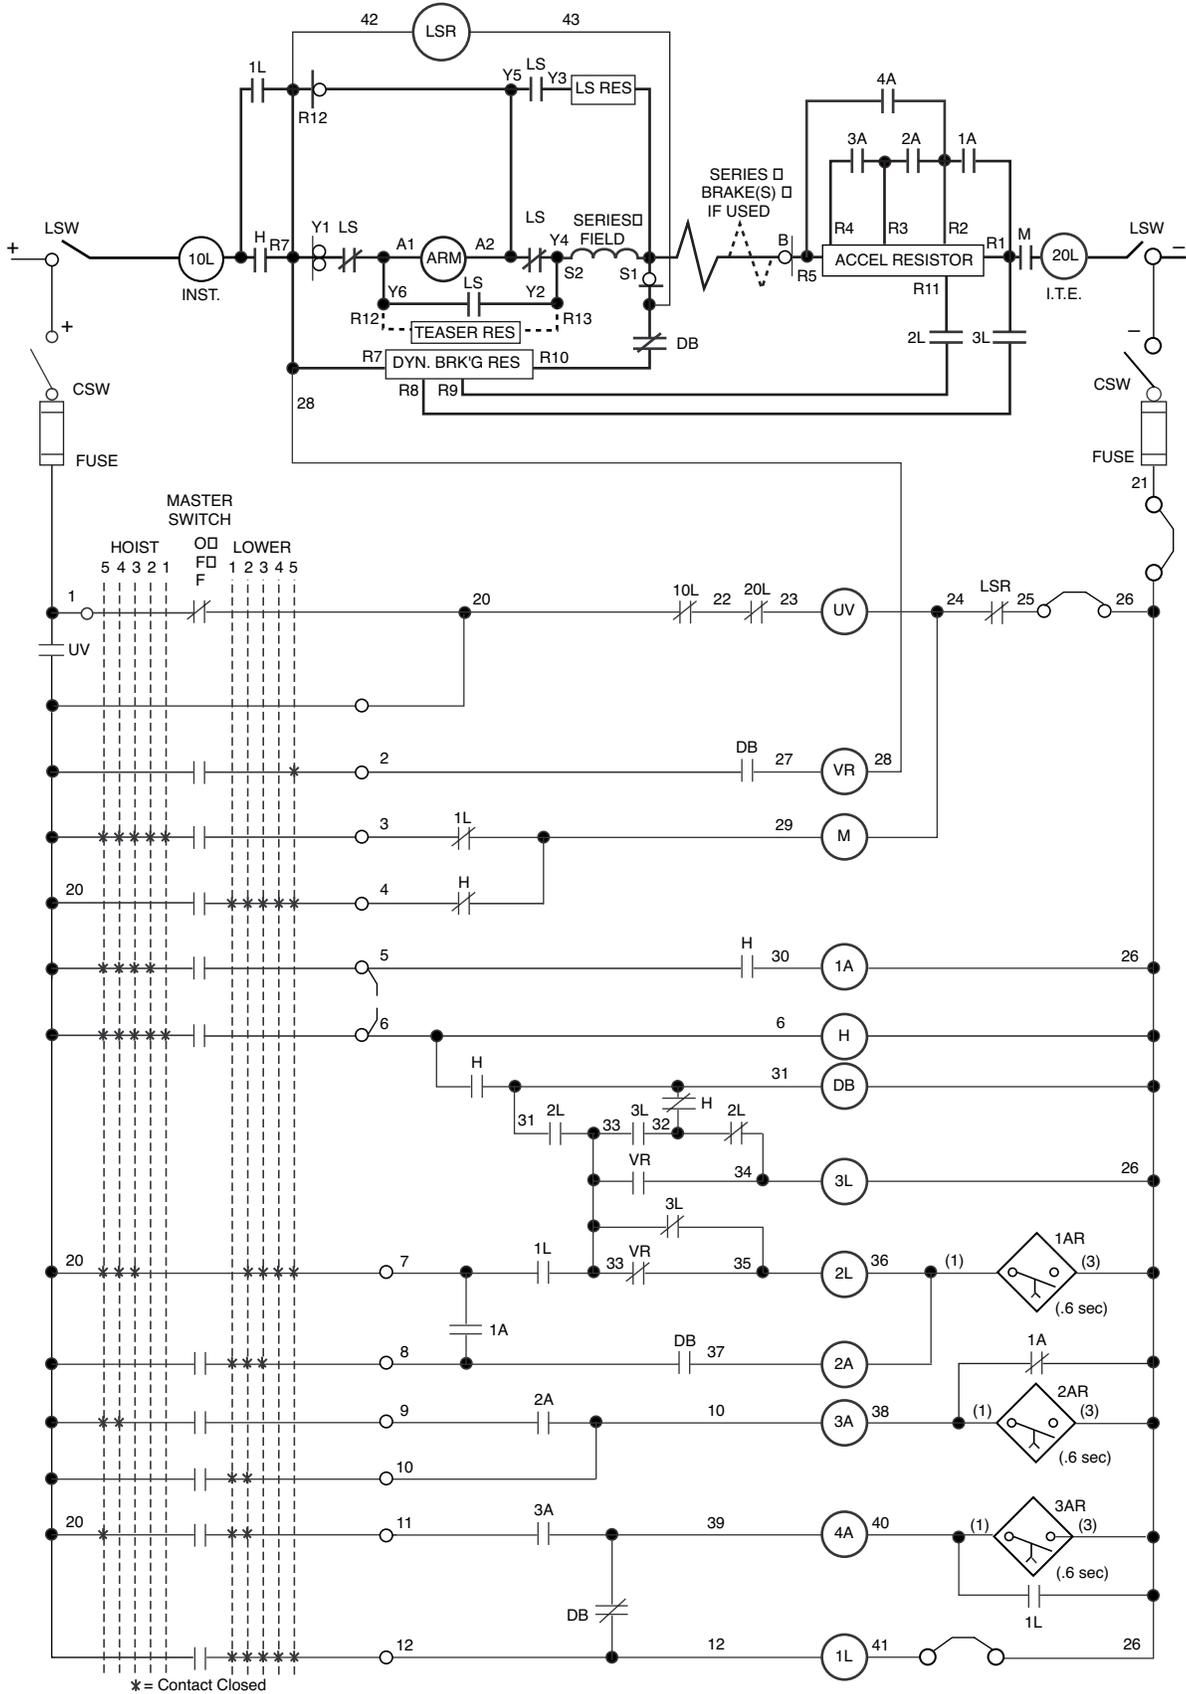

Figure 2: Wiring Diagram for Five Speed Point DC Dynamic Lowering Controller
5. Make sure that the main line knife switch (LSW) and control circuit knife switch (CSW) in the controller are open. Wire all external circuits to the controller in accordance with the wiring diagram. Observe the polarity shown in Figure 2 on page 6.
2. Refer to the wiring diagram, Figure 2 on page 6. Make sure that all external circuits and devices, such as the master switch and resistor, are properly wired to the controller.
13. With the main LSW open, close the CSW and make sure that the coil of the undervoltage relay (UV) is not energized.
15. Move the master switch from the off position to the first speed point hoist. Make sure that the closed contactor power tips match those of the contactor sequence table in Figure 2 on page 6. Also make sure that the closed contactor power tips match those of the contactor sequence table in the other speed points both forward and reverse. An X in the contactor sequence table in Figure 2 denotes a closed contactor power tip.
17. Block the armature of the voltage relay (VR) in the energized position.
21. Unblock the armature of the voltage relay (VR). Then block the armature of the limit switch relay (LSR) in the energized position.
- Figure 2 on page 6 shows the standard elementary wiring diagram .